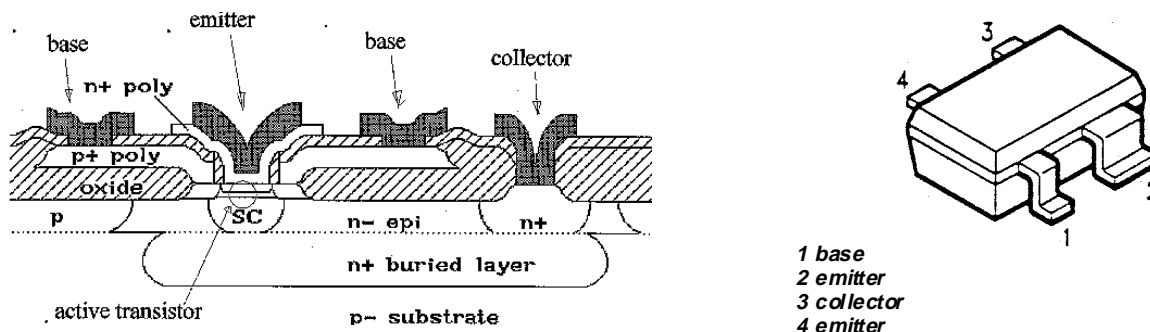

Figure 1: Cross section and package of the double-poly buried layer RF transistors.
This note describes the application of two of the new 5th generation silicon bipolar RF transistors in SOT343R plastic SMD package in a two-stage power amplifier (PA), designed for use in DECT cordless telephone systems. These transistors, manufactured according to the new *double-poly* process, are characterised by their high transition frequency ($f_T > 20$ GHz) at low supply voltages, resulting in a superior power gain at microwave frequencies, usually a field dedicated to GaAs-devices. Two layers of polysilicon are used: one for contacting the base, yielding a low base resistance and one to form the emitter, resulting in a steep emitter dope profile and an effective emitter width of 0.5 μ m. A buried N-layer (collector) is placed within a P-substrate, which is connected to the emitter package lead, which enables the die to be placed on the ground plane, reducing emitter inductance and thermal resistance. Figure 1 shows a cross section of a *double-poly* buried layer transistor.